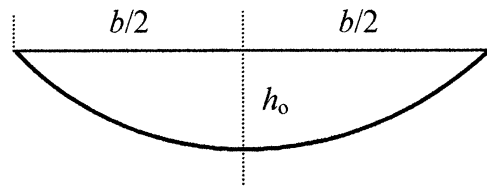

Fig. P10.46
**10.46** It is suggested that a channel which reduces erosion has a **parabolic shape**, as in Fig. P10.46. Formulas for area and perimeter of the parabolic cross-section are as follows [Ref. 7 of Chap. 10]: